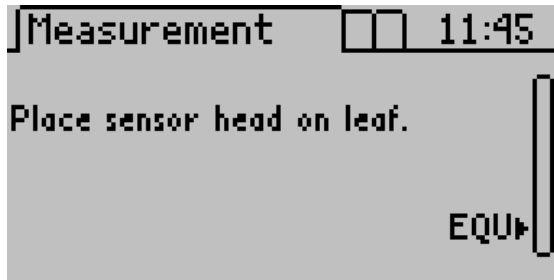

Figure 10 Prompt to place sensor head on the leaf
7. Once the measurement chamber has dried and equilibrated, the Measurement tab will display a prompt to insert the leaf (Figure 10).